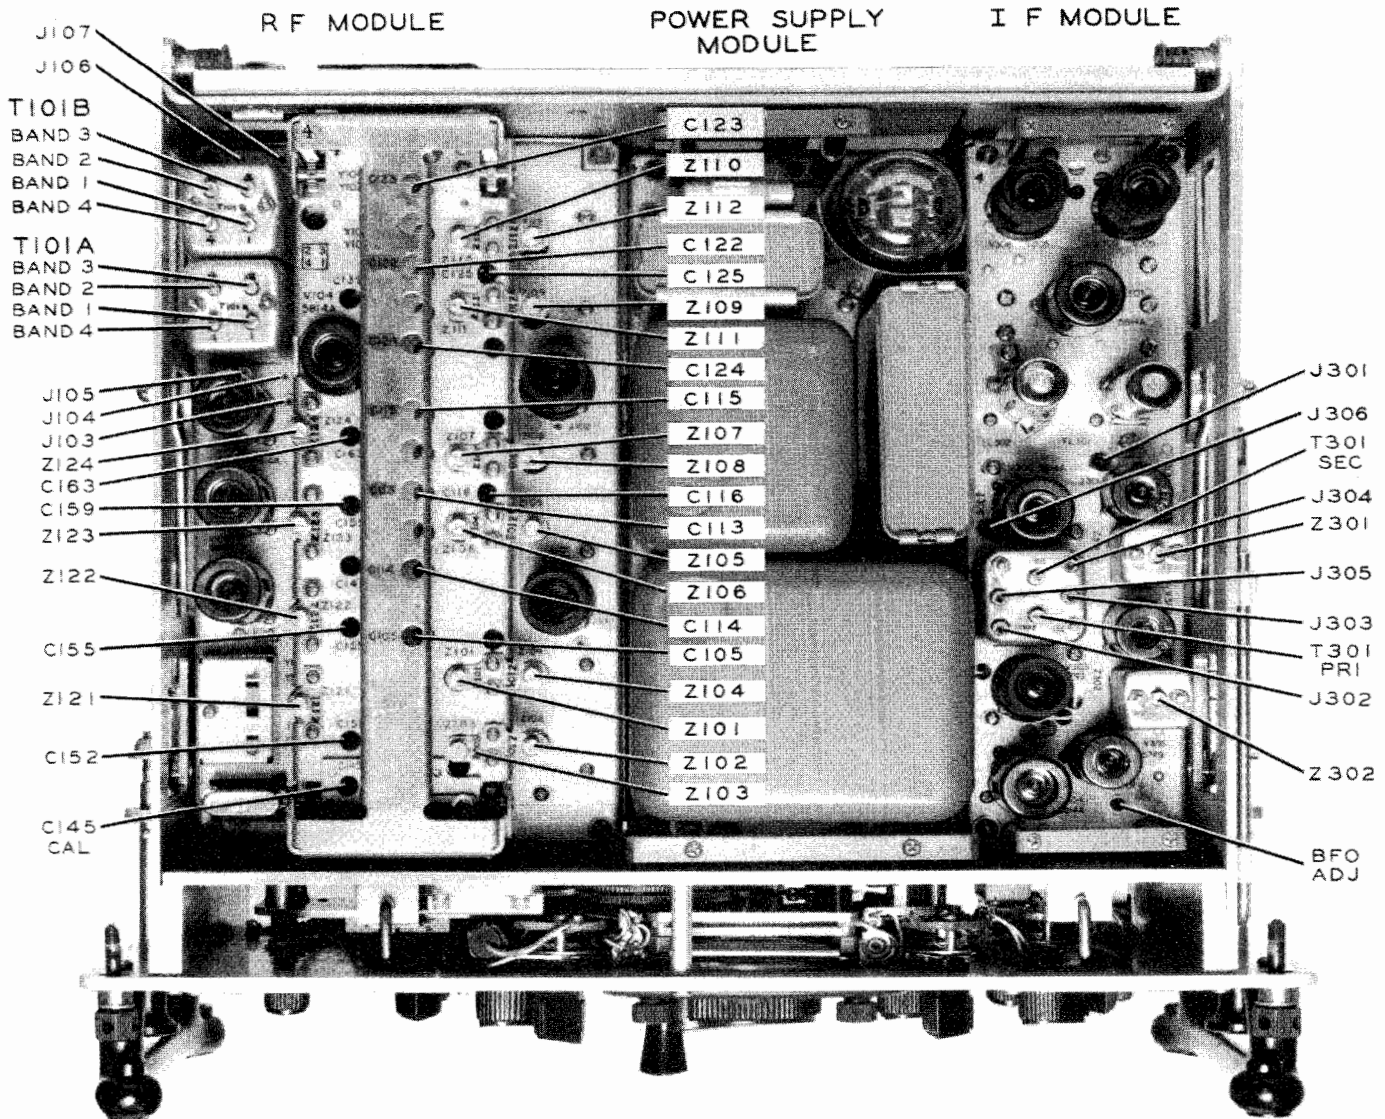

Figure 5-2. Radio Receiver R-627(XN-1)/URC-8, Alignment and Adjustment Points
- (1) Turn the radio receiver on and allow it to warm up for a minimum of 45 minutes.
(2) Pull the main frame out to the service position. All adjustments and test jacks are accessible from the top of the main frame (figure 5-2).
(3) Connect the audio cable to the radio receiver and connect the 600-ohm dummy load and the vtvm across the leads of the audio cable.
(4) Set the RECEPTION switch in the CW position, the RF GAIN control to 10, and the AF GAIN control to 5.